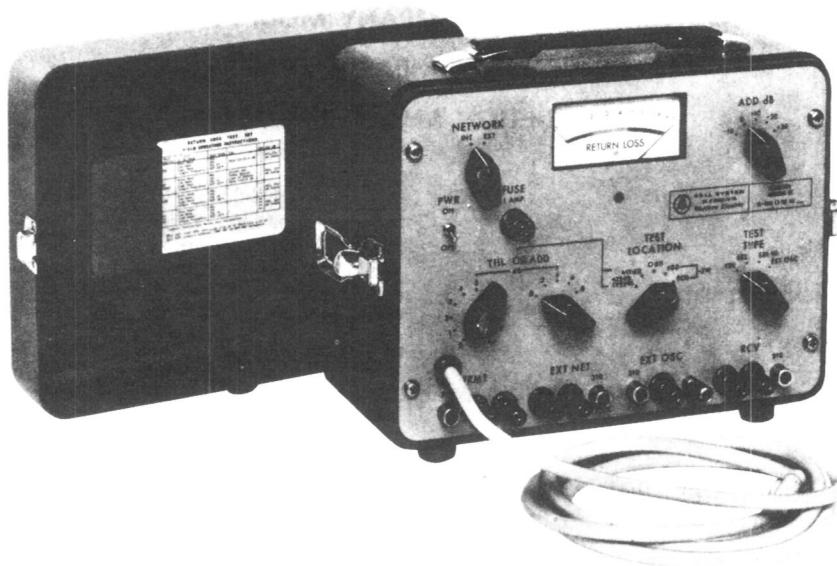
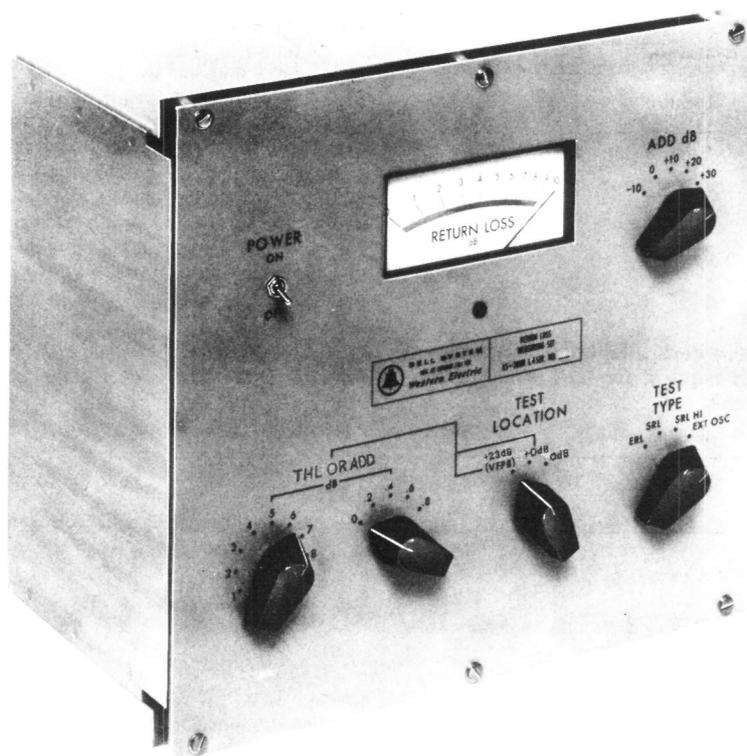

Fig. 1—KS-20501, List 3 Return Loss Measuring Set
Fig. 2—KS-20501, List 4 Return Loss Measuring Set
2.01 The KS-20501 RLMS is available in two configurations. The KS-20501 List 3 (Fig. 1) is a portable unit designed to measure either 2-wire or 4-wire return loss and requires 115 volt, 60-Hz power. The KS-20501 List 4, (Fig. 2) is a rack mounted unit for 4-wire return loss measurements only and requires -48 volt battery for operation.